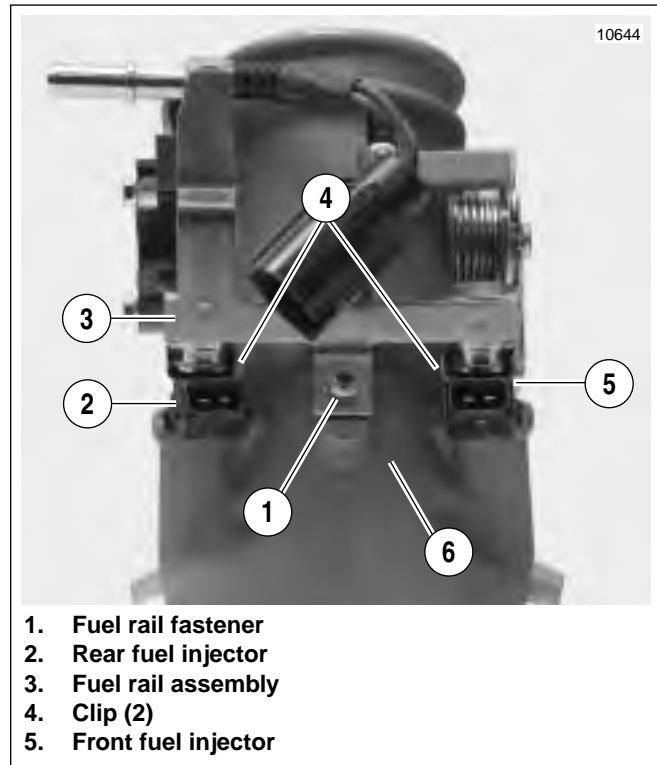

Figure 4-109. Fuel Injectors
- a. See Figure 4-109. Remove both injector clips (4).
6. See Figure 4-109. Install fuel injectors.
- b. Press the fuel rail assembly (3) onto the top of the injectors.
7. Snap the injector clips (4) over the flange on the fuel rail outlet and into the top groove in the injector.